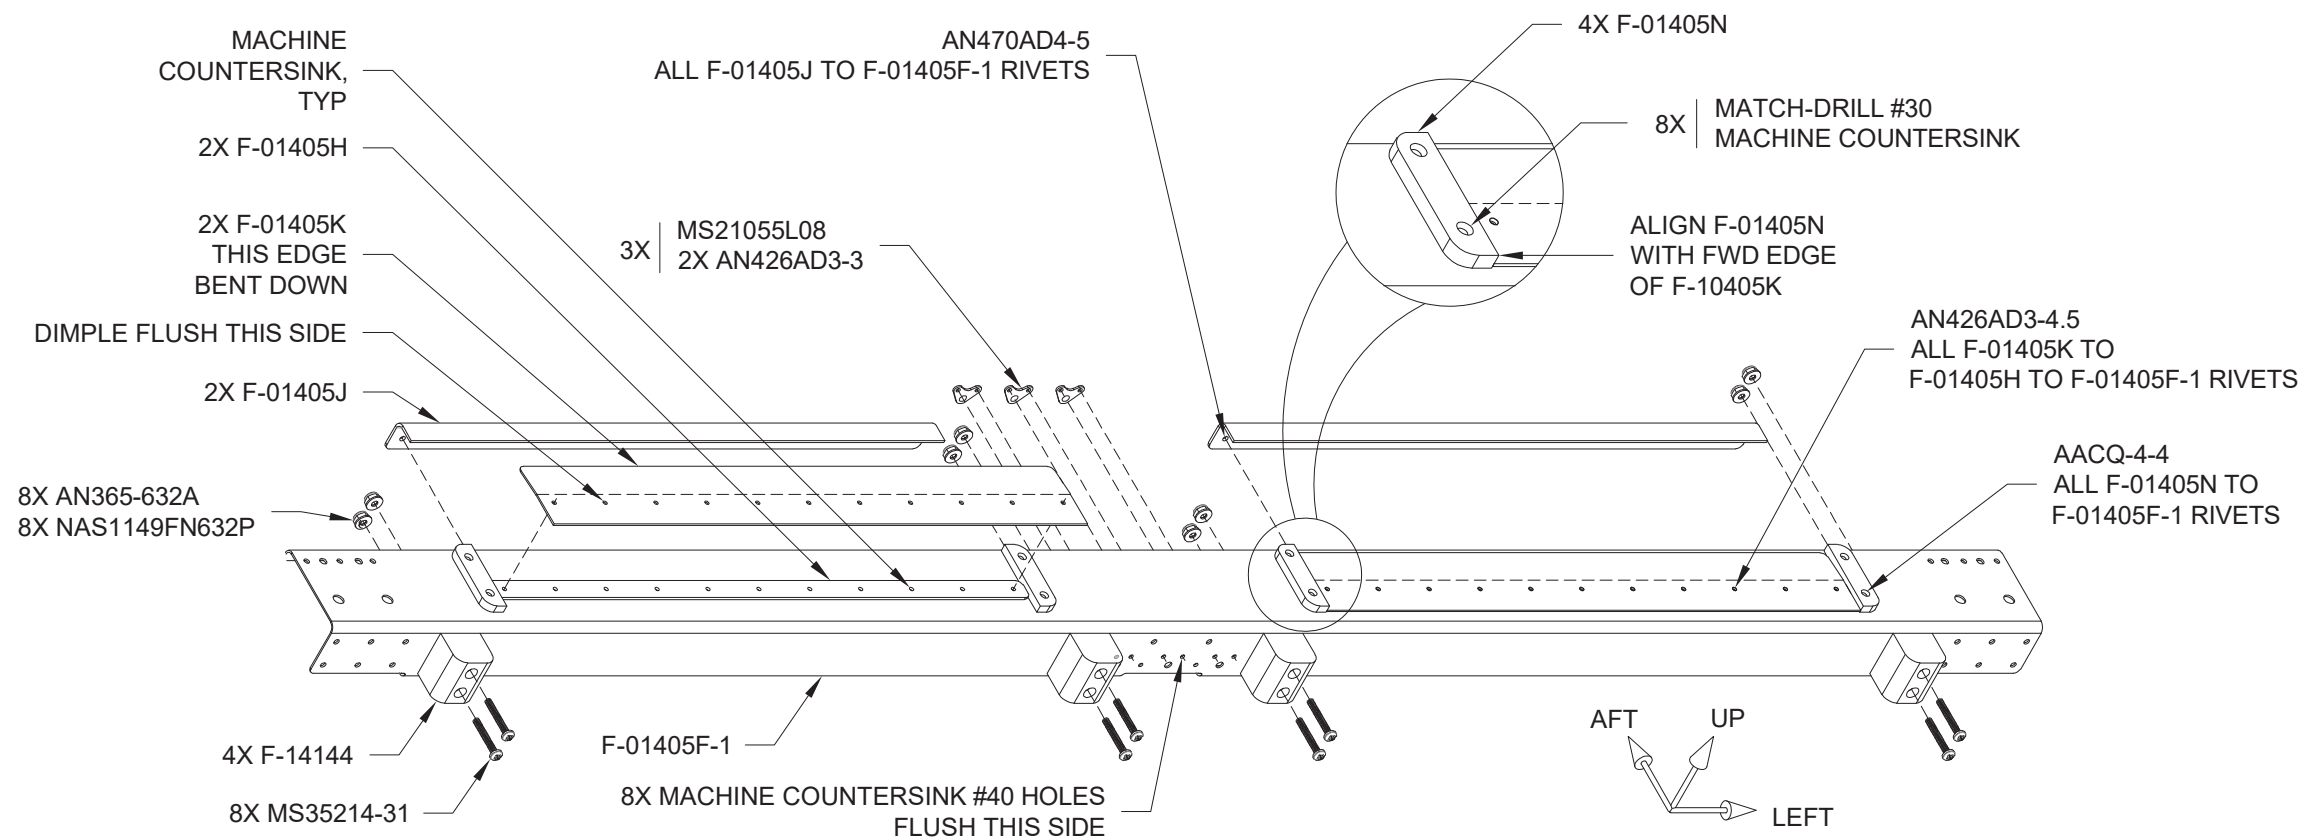

FIGURE 2: BRACE
Step 8: Attach the F-14144 Seatback Guides to the brace as shown in Figure 2.
Step 9: Clamp the F-01405N Seat Back Adjustment Guides to the brace. Set one edge flush with the forward edge of the F-01405K Guides. See Figure 2.
Step 10: Match-Drill #30 the holes in the F-01405F-1 Brace into the F-01405N Seat Back Adjustment Guides as shown in Figure 2.
Step 12: Rivet the seat back adjustment guides to the brace as shown in Figure 2.